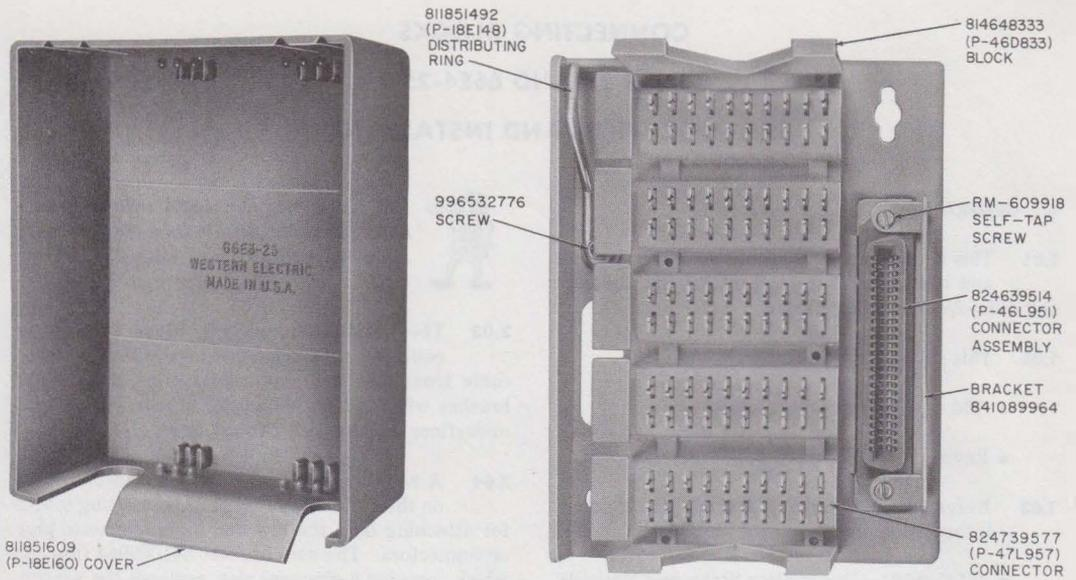

Fig. 1—66E3-25 Connecting Block
- Revise Fig. 1, 2, 3 and 4.
2.02 The 66E3-25 connecting block (Fig. 1) is equipped with a molded plastic housing incorporating a snap-on cover and a cable trough in the base. The block should be mounted on a firm flat surface. Provisions are also made for mounting the block to a standard wall outlet box or overfloor duct by using a 152A adapter.
2.04 A new bracket design has been incorporated on the 66E3-25 and 66E4-25 connecting blocks for attaching both the low and high silhouette plug or connectors. The new bracket 841089964 (Fig. 1), which contains a diagonal slot, replaces the present P-21E608 bracket. The new slot provides improved retention of the connector and plug to eliminate accidental disengagement resulting from external movement of the cord or connector cable.
3.05 Field replacement of the old retainer bracket (P-21E608) with the new retainer bracket (841089964) can be accomplished by removing two easily accessible RM-609918 button-head self-tapping screws (Fig. 1), removing the old bracket, installing the new bracket, and replacing the two screws. Attach retainer to bracket with 824634729 (P-461A72) RD washer head screw.